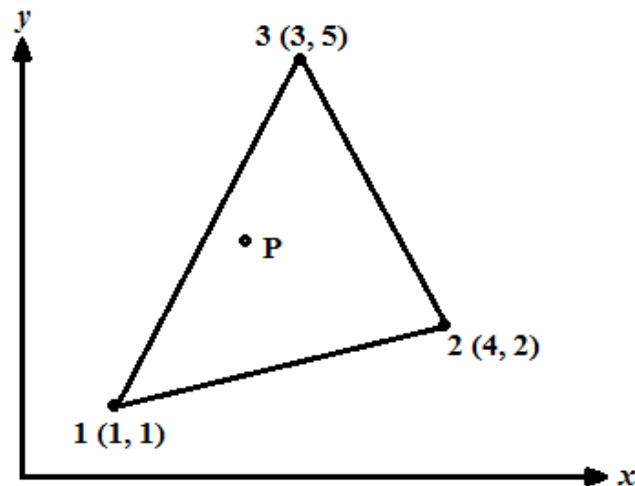

Figure 5 (a)
- 5 a) For point p located inside the triangle as shown in figure 5 (a), the shape functions N_1 and N_2 are 0.15 and 0.25 respectively. Determine the x-and y-coordinates of point P .